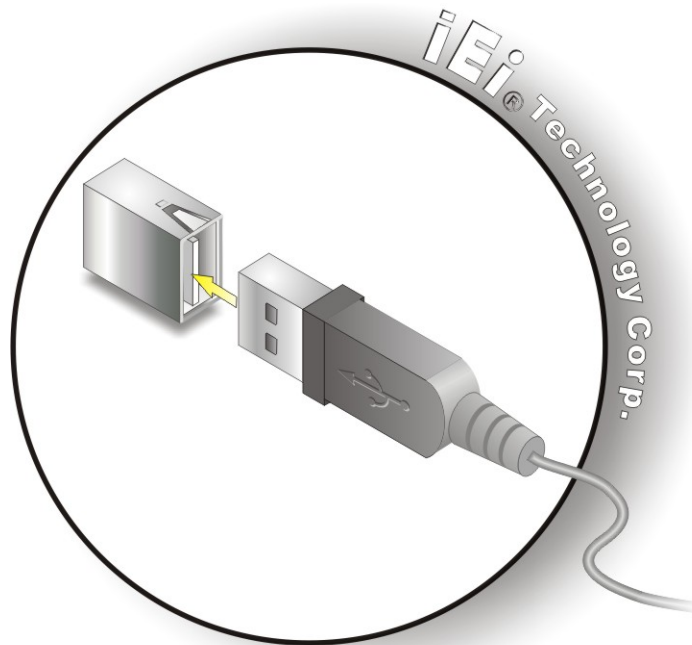

Figure 4-23: USB Device Connection
Step 2: Align the connectors. Align the USB device connector with one of the connectors on the SPCIE-5100DX. See Figure 4-23.